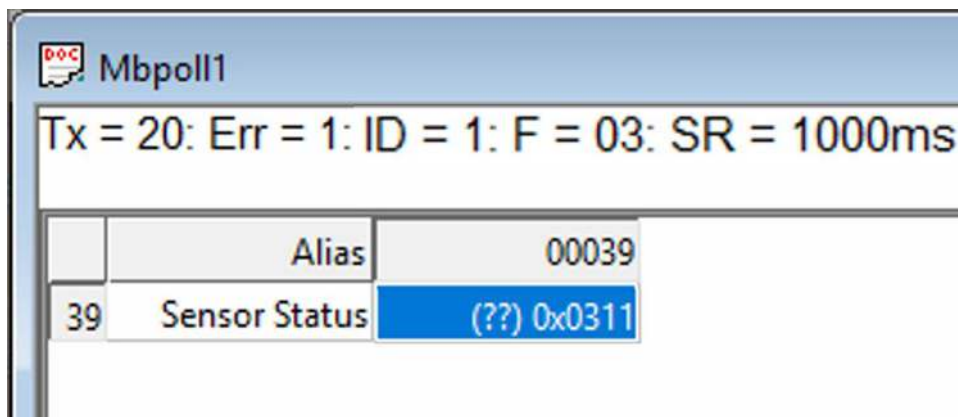

Figure 24: Sensor status example.
In the scenario described in Figure 24, **Sensor Status has a value 0x311**. Sensor error status is the combination of any bit and in this case is the combination (OR) of the following error bits: